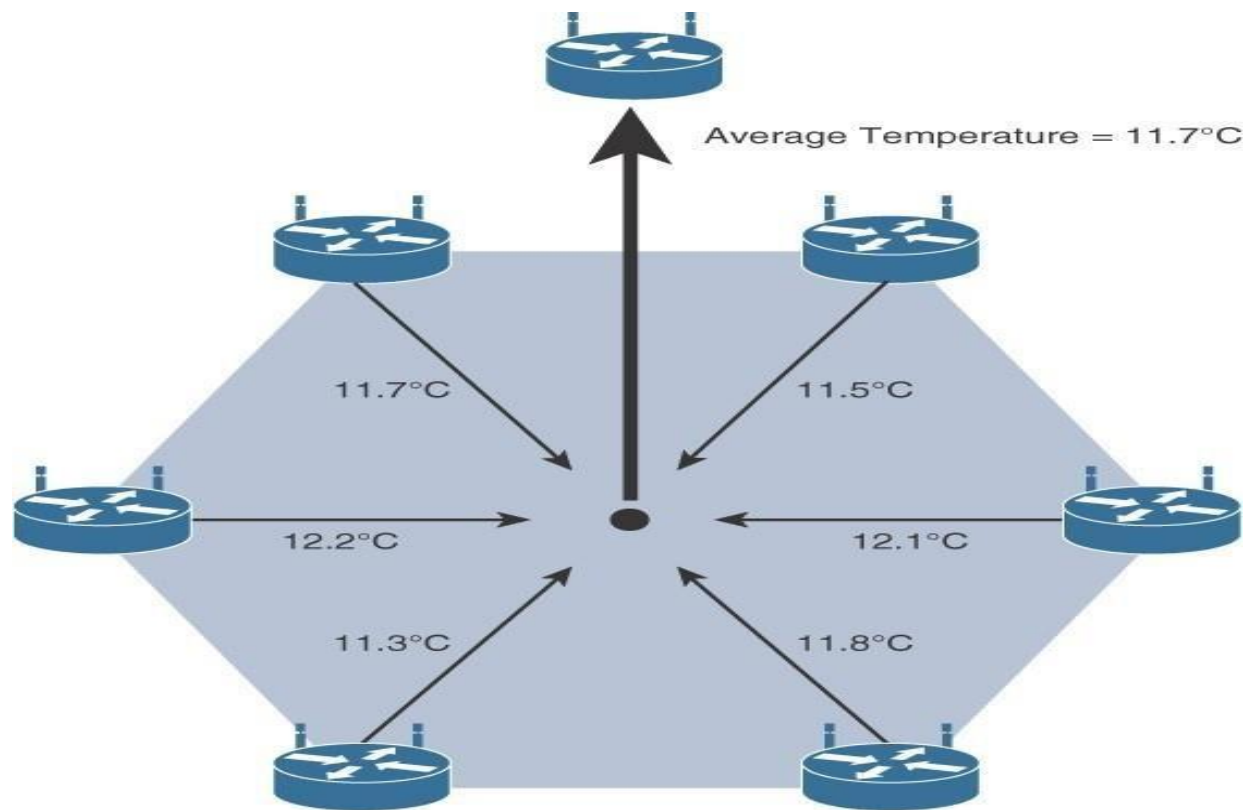

Figure 3-9 *Data Aggregation in Wireless Sensor Networks*
- . Figure 3-9 shows an example of such a data aggregation function in a WSN where *temperature readings from a logical grouping of temperature sensors are aggregated as an average temperature reading.*